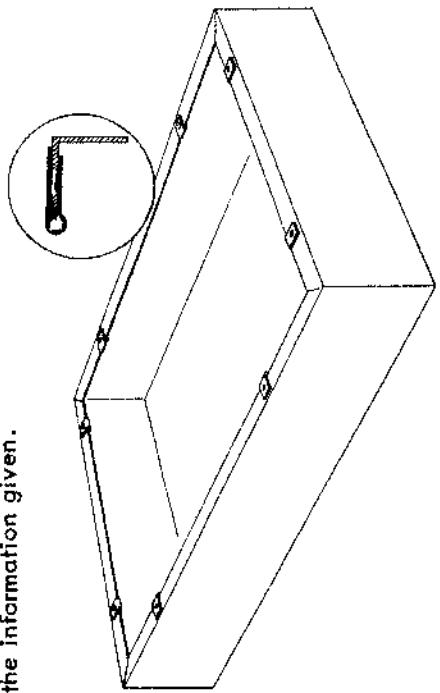

Fig. 7
Press a speed nut in place over each hole on the bottom flange of the chassis (see Fig. 7).
6) Press a speed nut in place over each hole on the bottom flange of the chassis (see Fig. 7).